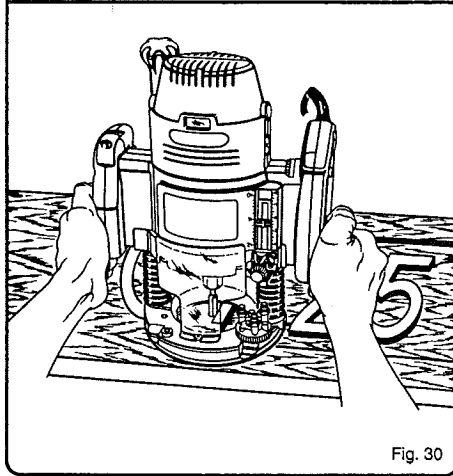

Fig. 30
See Figure 30.
2. Routing out the background, leaving the letters or pattern raised above the surface as shown in figure 30.